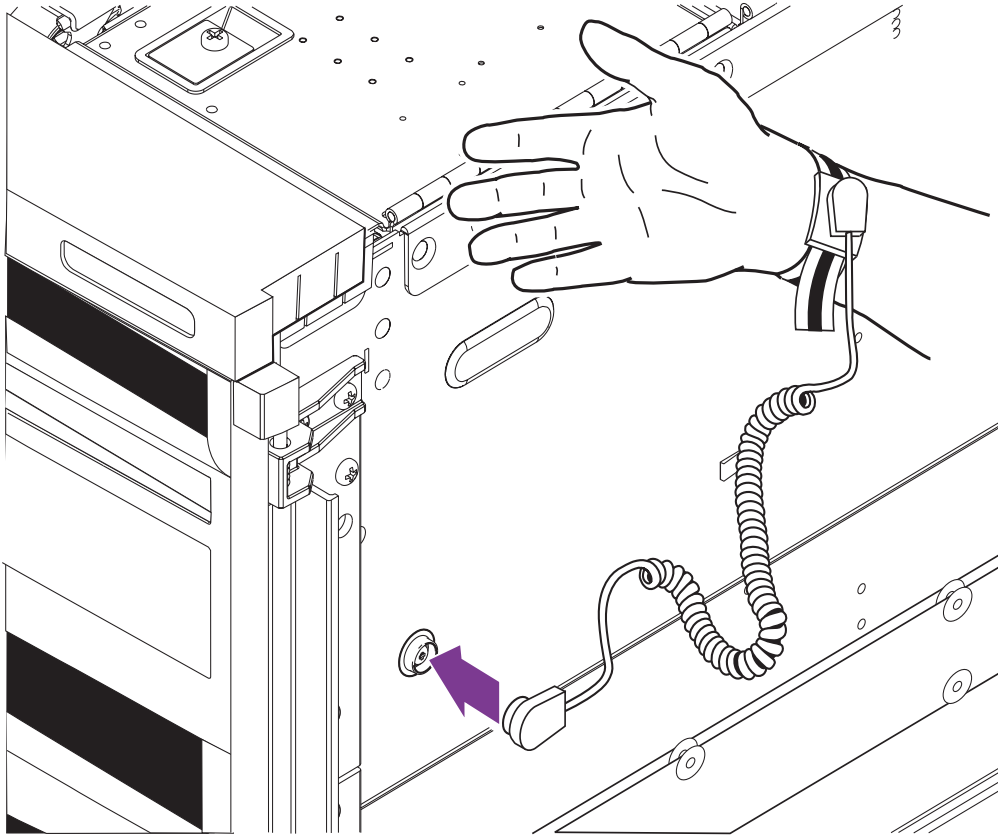
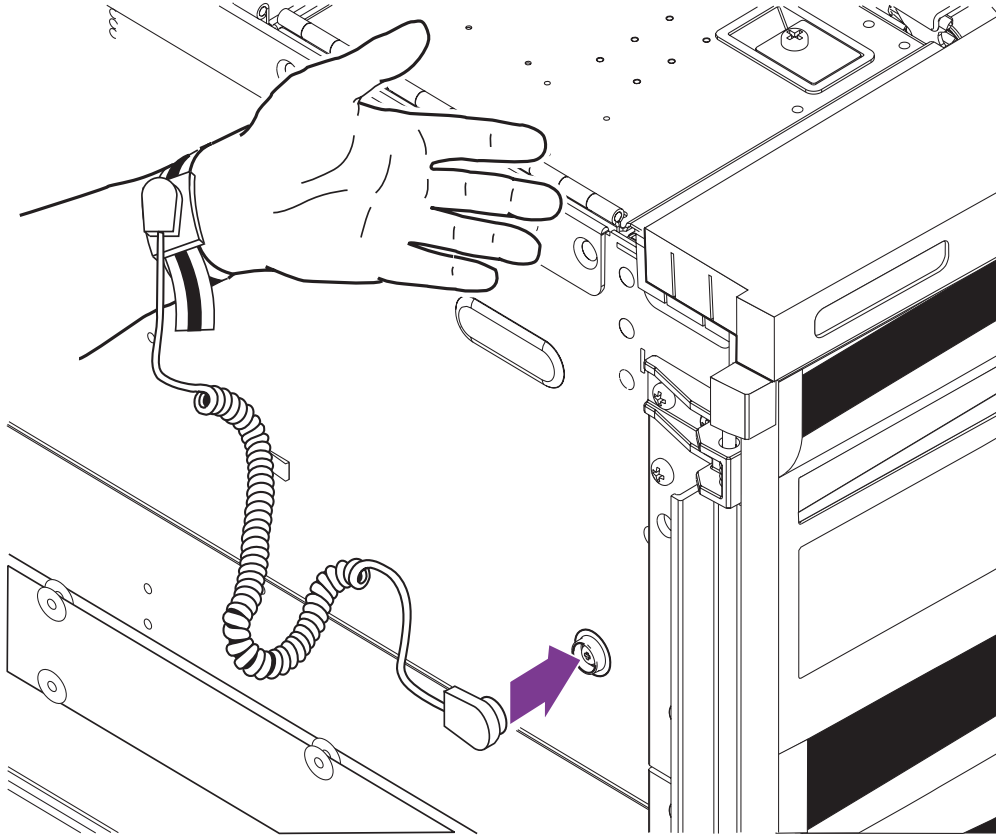

FIGURE 3 Attaching the Wrist Strap – Right-Hand Side
FIGURE 4 Attaching the Antistatic Wrist Strap – Left-Hand Side
- **To attach the antistatic wrist strap to the chassis, connect the strap as shown in FIGURE 3 or FIGURE 4.**